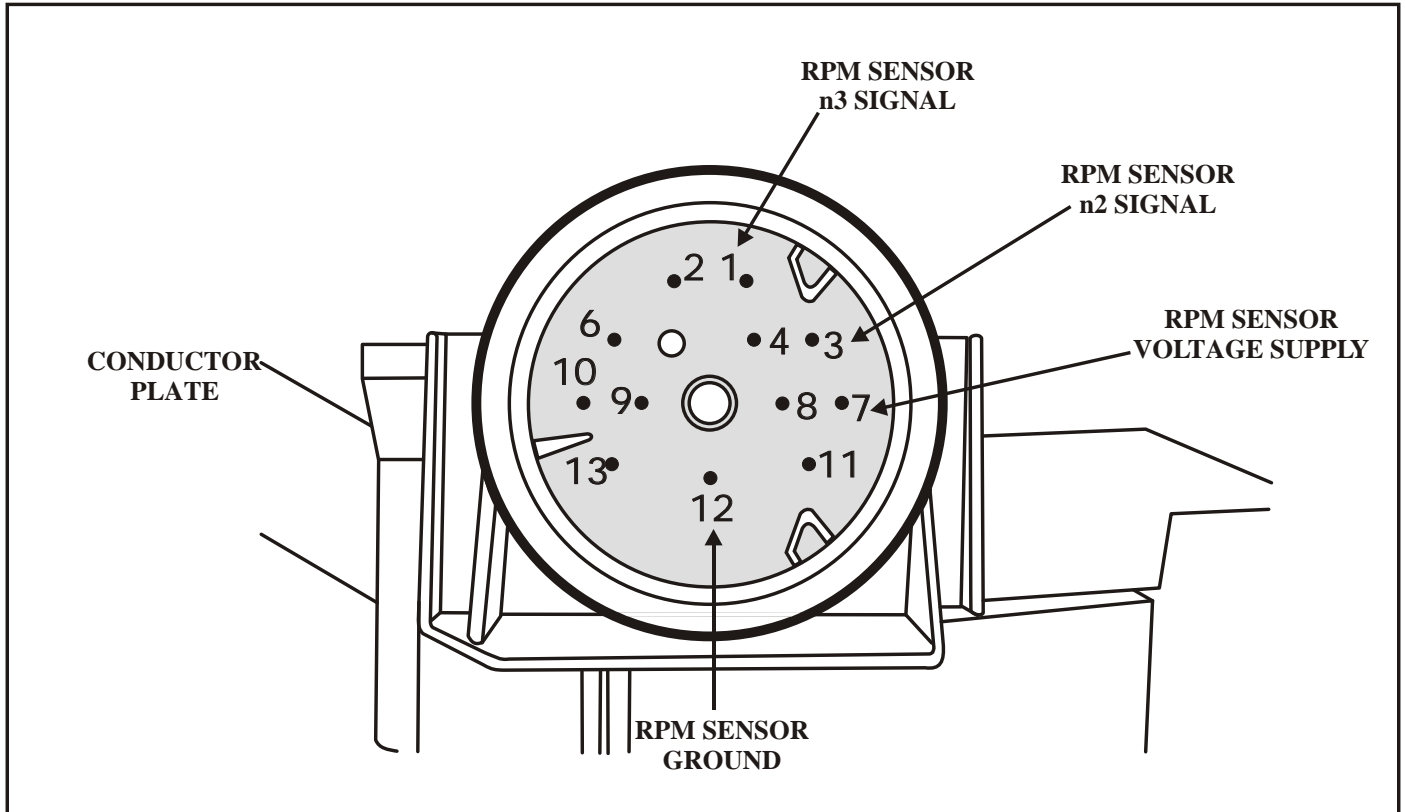

Figure 8
4. The solenoid case sleeve connector can develop problems such as terminal fatigue, leakage or wiring problems between the case connector and the TCM. In figures 8 and 9 The terminal locations at the case connector and the TCM are shown for all the rpm sensor circuits. Since these are Hall Effect Sensors, it will be necessary to check for power, ground and signal.